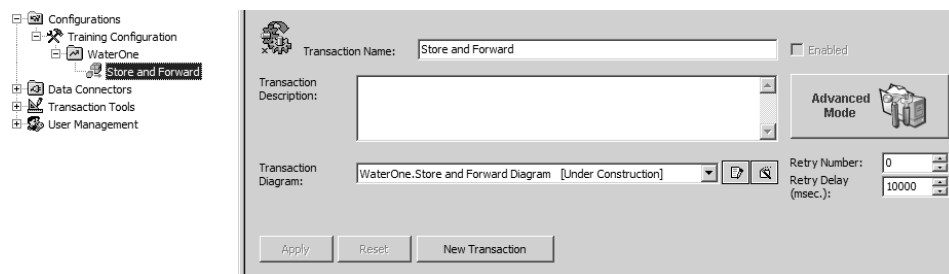

Figure L5.2 - WaterOne Folder with the Store and Forward Configuration
1. Open the **Store and Forward** transaction in the WaterOne Configuration Folder, as shown in Figure L5.2.